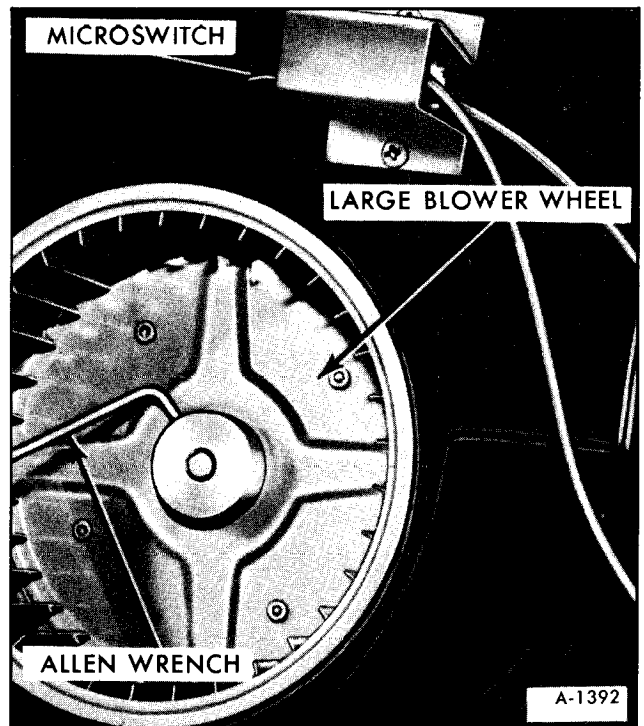

Figure 26—Removing Large Blower Wheel
7. Remove large blower wheel (1/8 inch Allen wrench) (See figure 26).
6. Install large blower wheel on motor shaft (1/8" Allen wrench) (figure 26).
6. Remove large blower wheel (1/8" Allen wrench) (See figure 26).
5. Install large blower wheel (1/8" Allen wrench) (figure 26).